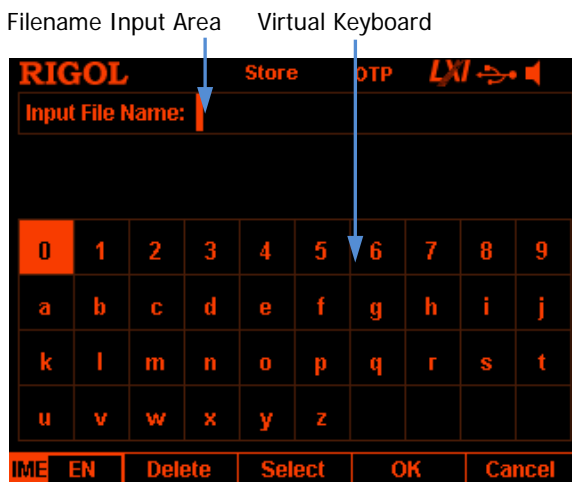
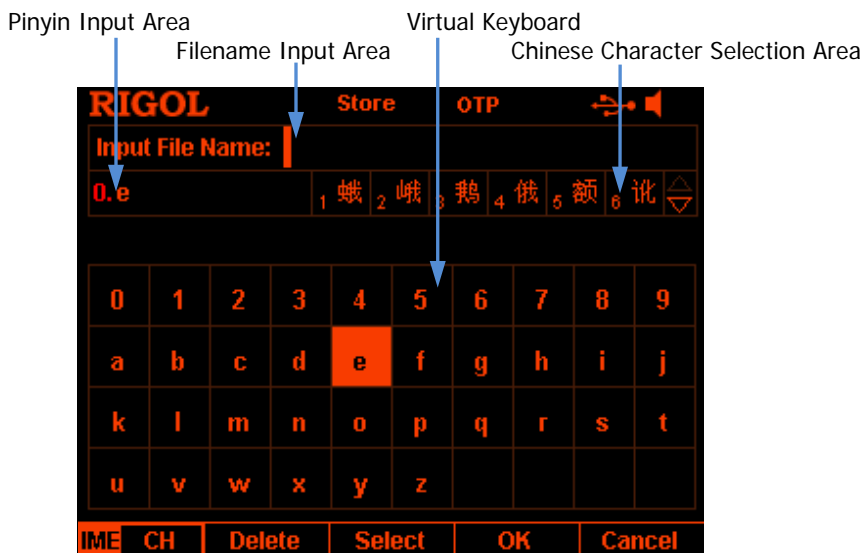

Figure 2-11 Filename Input Interface (English)
Figure 2-12 Filename Input Interface (Chinese)
2. Press **Browser** to switch the cursor to the directory area to select the desired directory. Press **Browser** again to switch the cursor to the file area and select the desired storage directory. Press **Save** to open the filename input interface (Figure 2-11 or Figure 2-12).
Press **IME** to select "CH" or "EN" in the filename input interface (Figure 2-11 or Figure 2-12). Press **.** on the numeric keyboard to switch between English uppercase and lowercase.